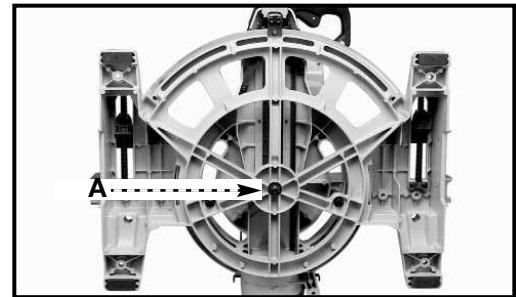

Fig. 15
To adjust the sliding fit between the movable table and the base, turn the nut (A) Fig. 15 clockwise to tighten the fit (counterclockwise to loosen the fit). This adjustment should not be so tight that it restricts the rotating movement of the table, or so loose that it affects the accuracy of the saw.